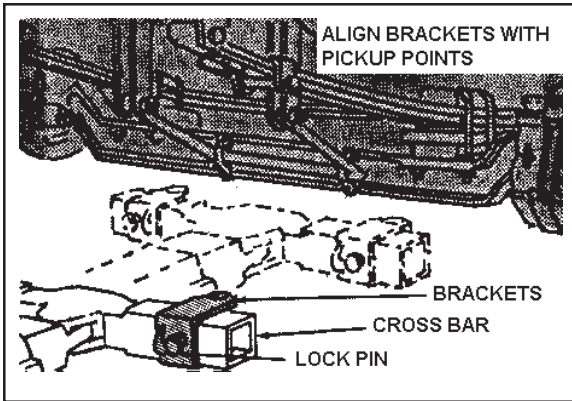

Figure 4-15.
7. Position the fork holders on the crossbar to align with the pickup points on the vehicle. Make sure the lock pin of each fork holder engages a hole in the cross bar. (See Figure 4-15.)